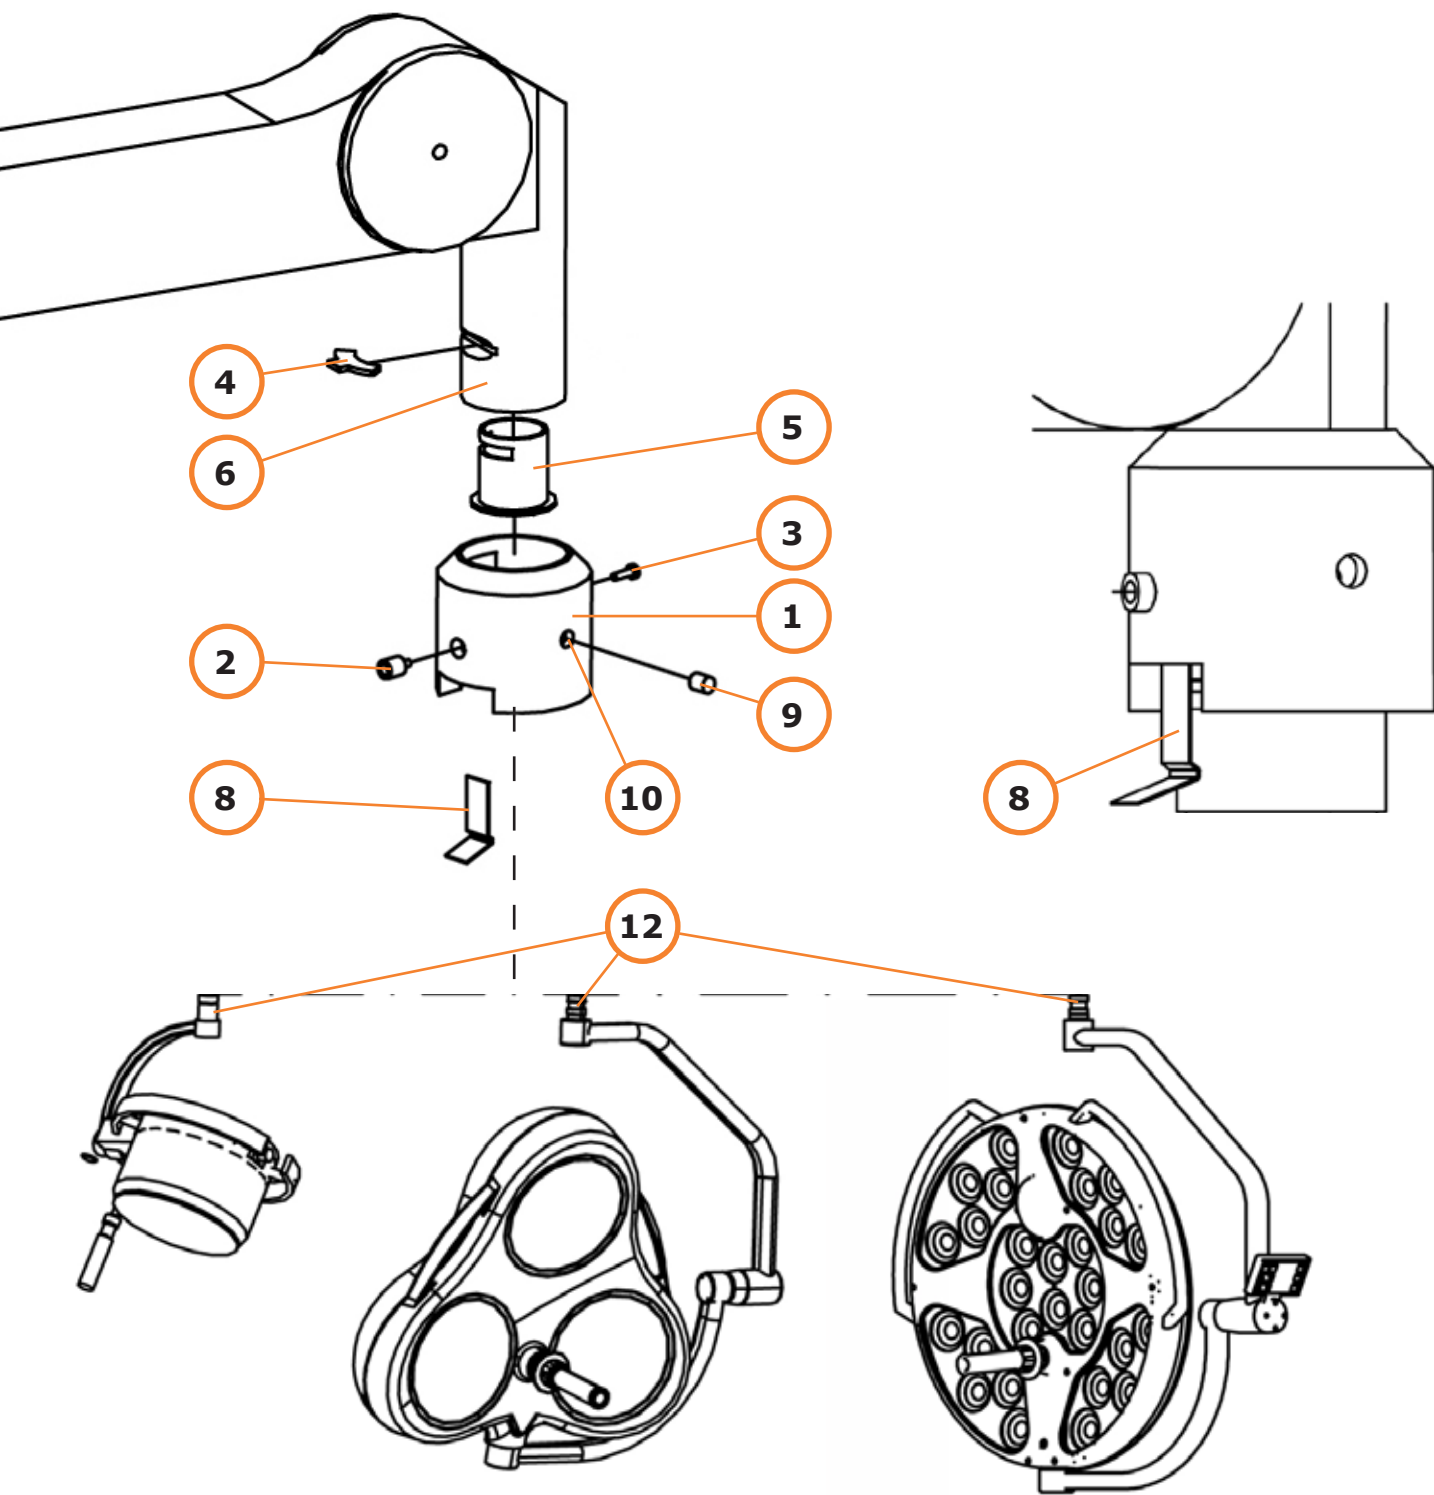

Fig. 28
10.2.1 Remove the screws (2,3/Fig. 28) from the safety collar (1/Fig. 28). Store them in a safe place.
10.2.2 Push up the safety collar (1/Fig. 28) until it rests on the plastic cover and hold it in this position.
Hold the safety collar (1/Fig. 28) to ensure that it will not fall off the spring arm.
10.2.3 Remove the retaining clip (4/Fig. 28) from its slot Fig. 28 and remove the protective cap (5/Fig. 28) from the receptacle (6/Fig. 28).
10.2.4 Insert the mounting pin/connecting part of the adaptable element (12/Fig. 28) into the receptacle (6/Fig. 28) until it rests on its flat surface. Insert the retaining clip (4/Fig. 28) in its slot.
Remove the safety spring (8/Fig. 28) from your shipping carton and insert it, long end first, into the safety collar (1/Fig. 28) as shown in detail (Fig. 28).
10.2.5 Secure the safety spring (8/Fig. 28) under the retaining clip (4/Fig. 28).
10.2.6 Carefully, slide the safety collar (1/Fig. 28) over the safety spring (8/Fig. 28), until it is flush with the flat surface of the receptacle. While sliding down the safety collar, make sure the safety spring is firmly set.
10.2.7 Insert and tighten the screw (3/Fig. 28).
10.2.8 Apply Loctite® 270 (included in package) to the set screw (2/Fig. 28) and screw it into the safety collar as far as possible. The lamp holder will be difficult to rotate. Now, back out the screw with a 90° rotation.
10.2.9 Remove the plastic plugs (9/Fig. 28) from your shipping carton and insert them into the drill holes (10/Fig. 28) on the sides of the safety collar (1/Fig. 28).